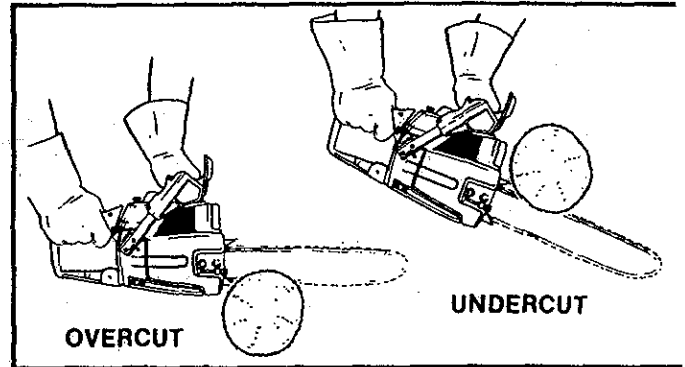

Figure 26
2. TYPES OF CUTTING USED Figure 26.